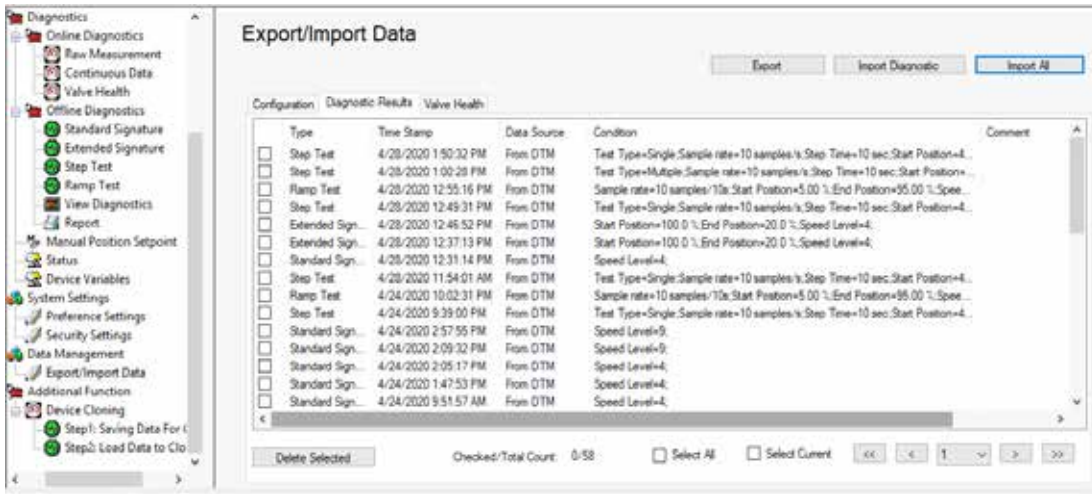

Figure 103 Diagnostic Results Imported
4. Click **OK** and Figure 103 appears with the items imported. A selected test result can be viewed by double click or deleted by clicking Delete Selected button.